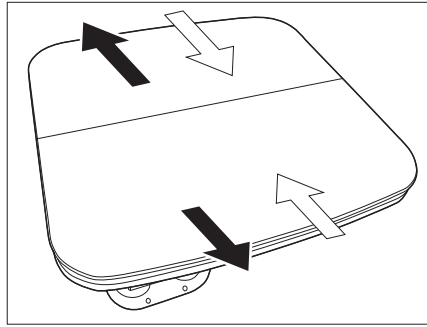

Fig. 102 Pull the outer parts apart
- Pull apart the outer parts of the table (Fig. 102 - black arrows).
- Push the outer parts of the table together (Fig. 102 - white arrows).